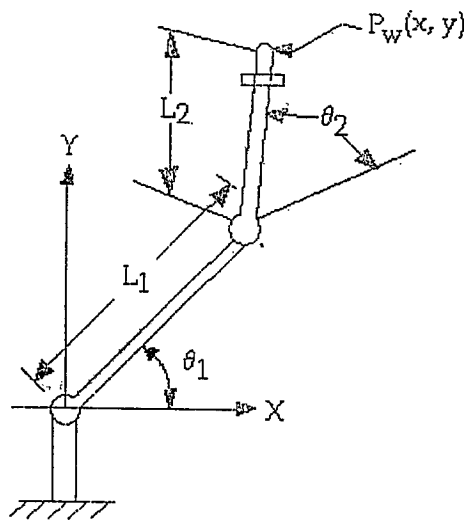

Figure 3
3. Consider the forward transformation of the two-joint manipulator shown in figure 3. Given that the length of joint 1, $L_1=12\text{in}$, the length of joint 2, $L_2=10\text{in}$., the angle $\theta_1=30^\circ$ and the angle $\theta_2=45^\circ$, compute the coordinate position (x and y coordinates) for the end-of-the-arm P_w . [16]